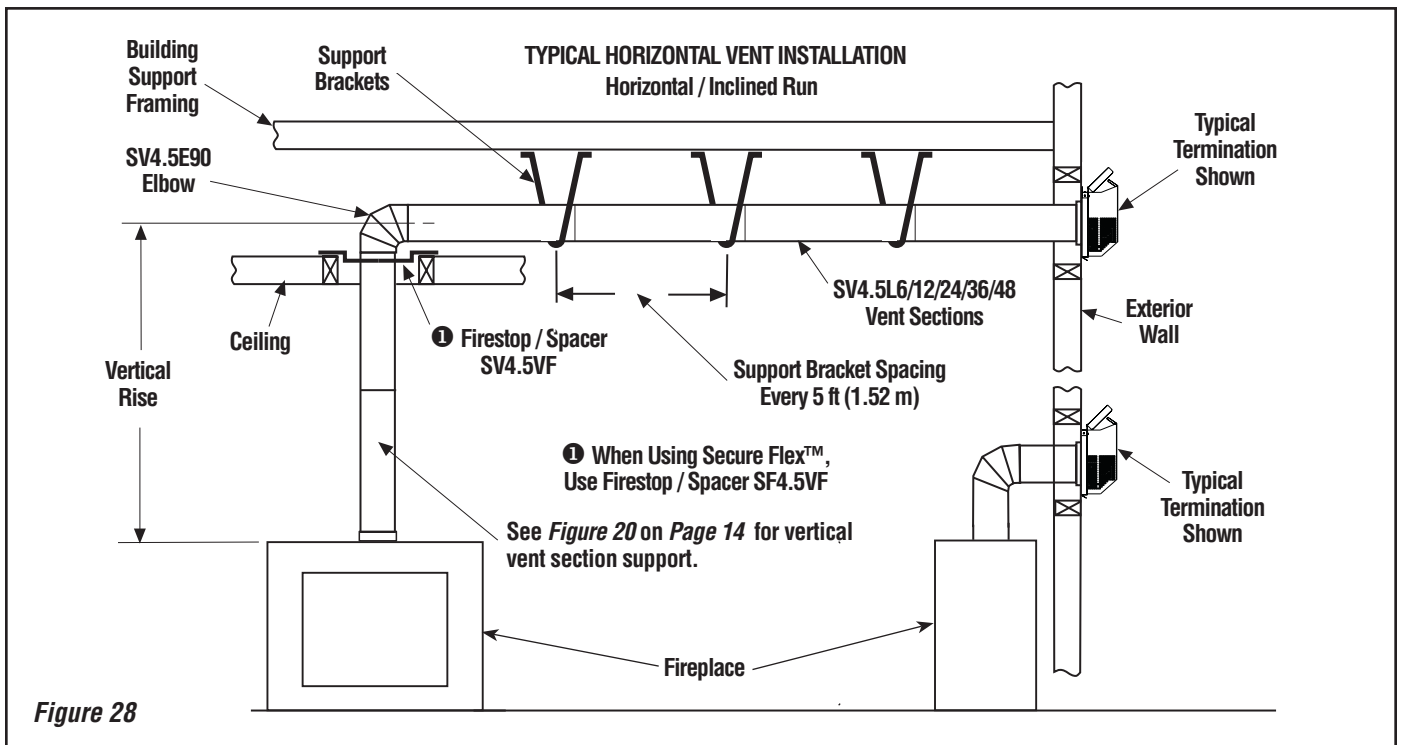

Figure 28
G. Continue installation of horizontal/inclined sections - Continue with the installation of the straight vent sections in horizontal/inclined run as described in **Step C**. Install support straps every 5 ft. (1.52 m) along horizontal/inclined vent runs using conventional plumber's tape. **See Page 18, Figure 28. It is very important that the horizontal/inclined run be maintained in a straight (no dips) and recommended to be in a slightly elevated plane, in a direction away from the fireplace of 1/4" rise per foot (20 mm per meter) which is ideal,** though rise per foot run ratios that are smaller are acceptable all the way down to at or near level. Use a carpenter's level to measure from a constant surface and adjust the support straps as necessary.
See **Figure 28** on **Page 18**, and **Figures 31 through 33** on **Pages 19 through 22** and their associated Horizontal Vent Tables which illustrate the various horizontal venting configurations that are possible for use with these appliances. **Secure Vent™** pipe applications are shown in these Figures; **Secure Flex** pipe may also be used. A Horizontal Vent Table summarizes each system's minimum and maximum vertical and horizontal length values that can be used to design and install the vent components in a variety of applications.
See **Figure 28**. **It is very important that the horizontal/inclined run be maintained in a straight (no dips) and recommended to be in a slightly elevated plane, in a direction away from the fireplace of 1/4" rise per foot (20 mm per meter) which is ideal**, though rise per foot run ratios that are smaller are acceptable all the way down to at or near level.